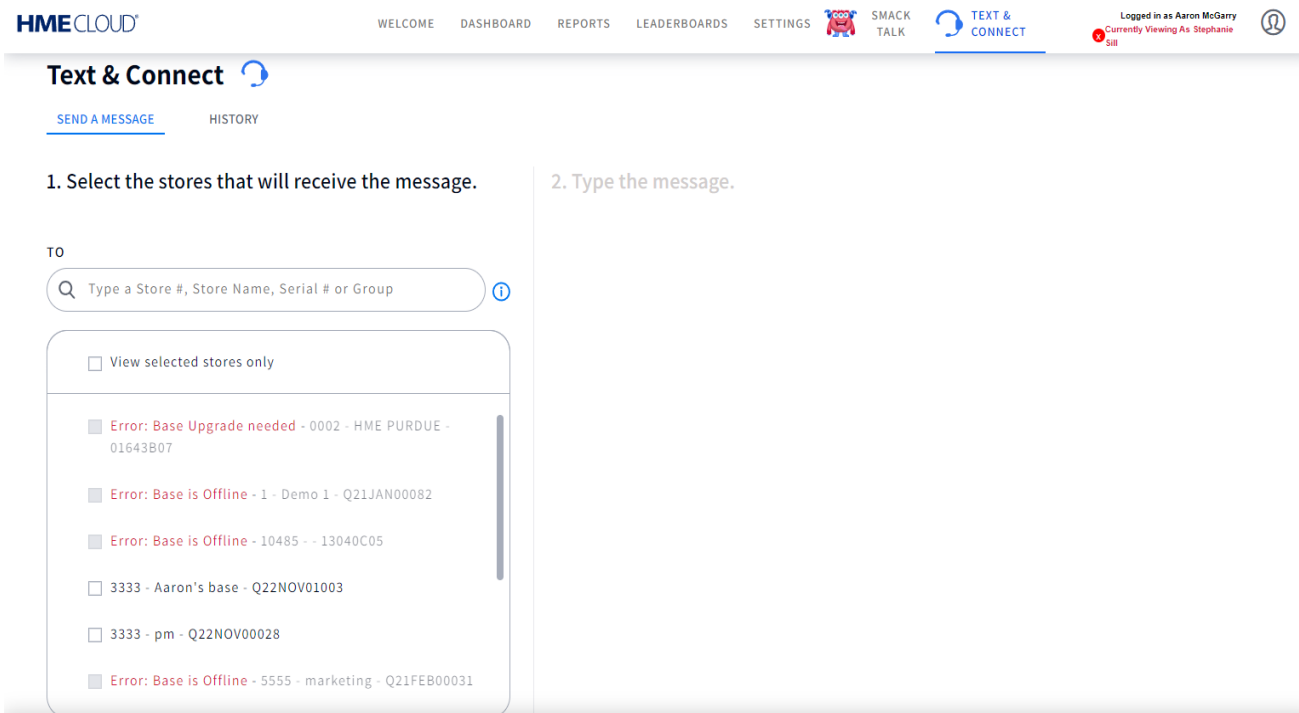

Fig. 8.13
- This opens the Text & Connect page (Fig. 8.13). All the stores associated with your account will be displayed on the store list on the left. Base stations that are offline or in need of an upgrade will be listed in red, with a grayed-out checkbox indicating that this device cannot be selected. The example in Fig. 8.13 only shows two available options.